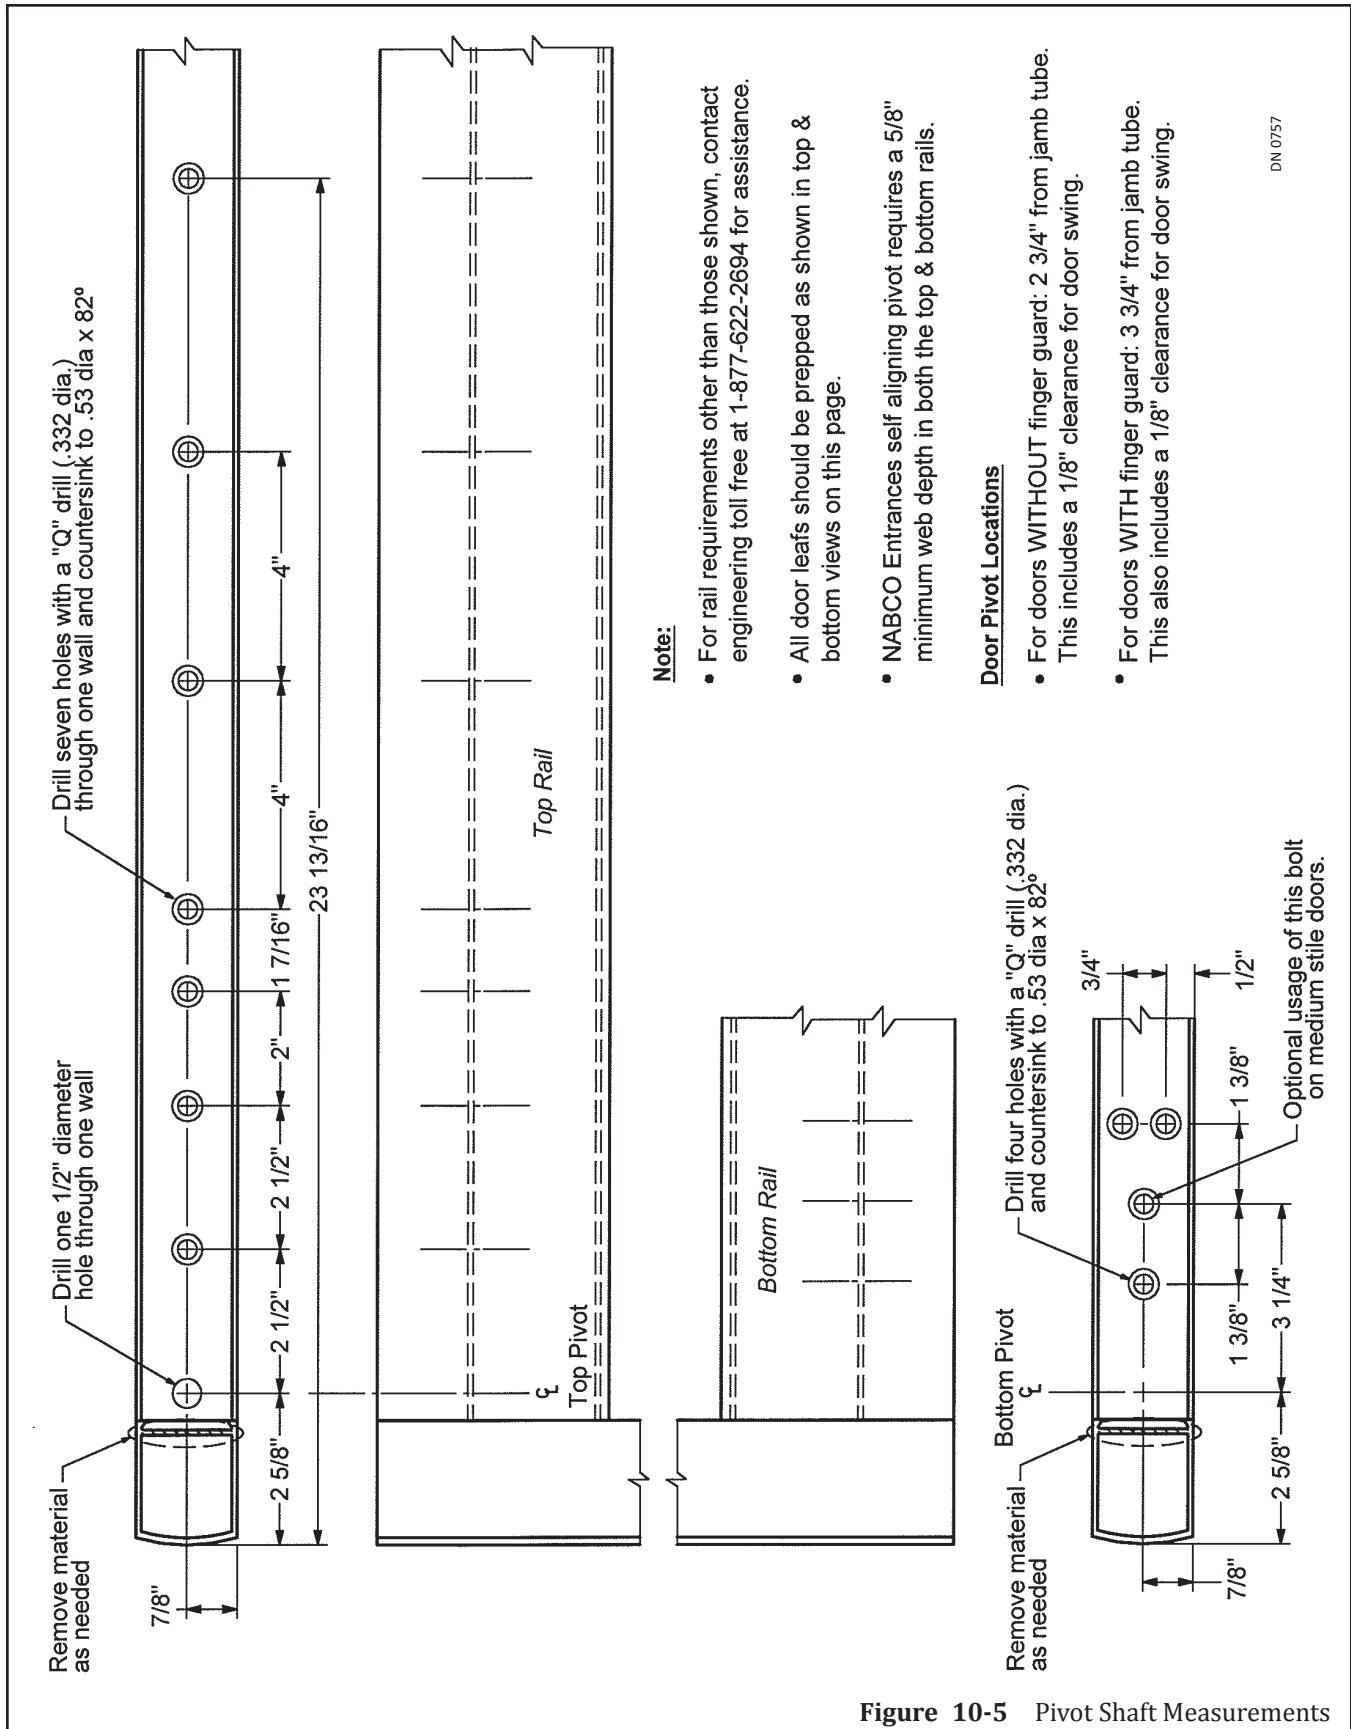
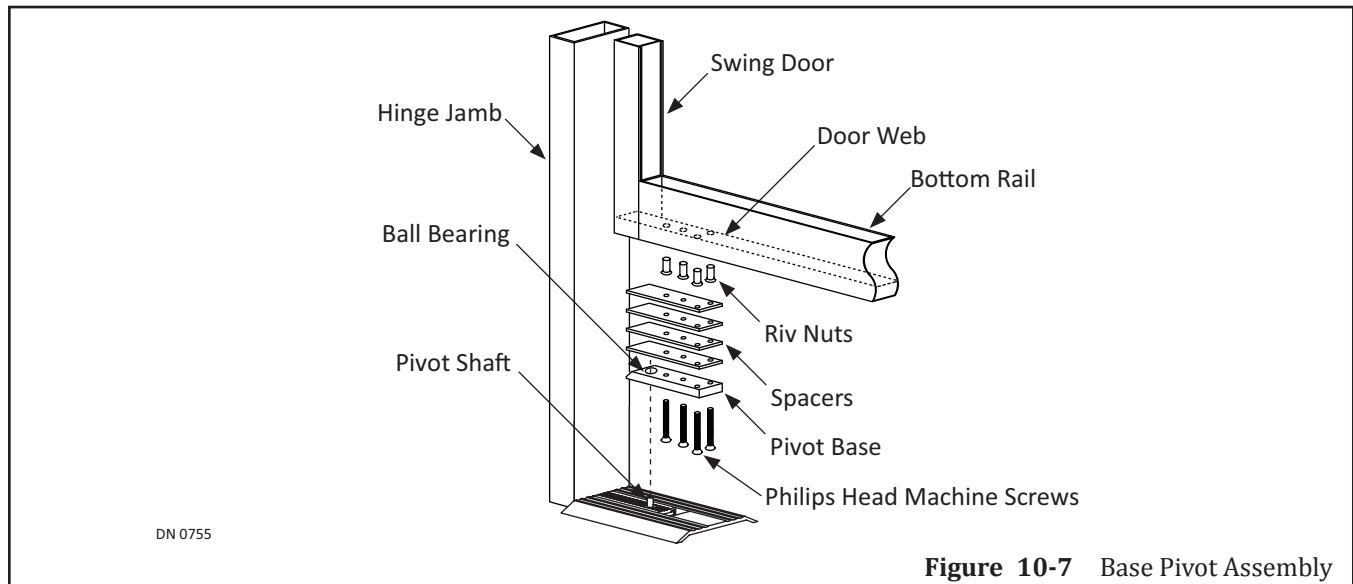
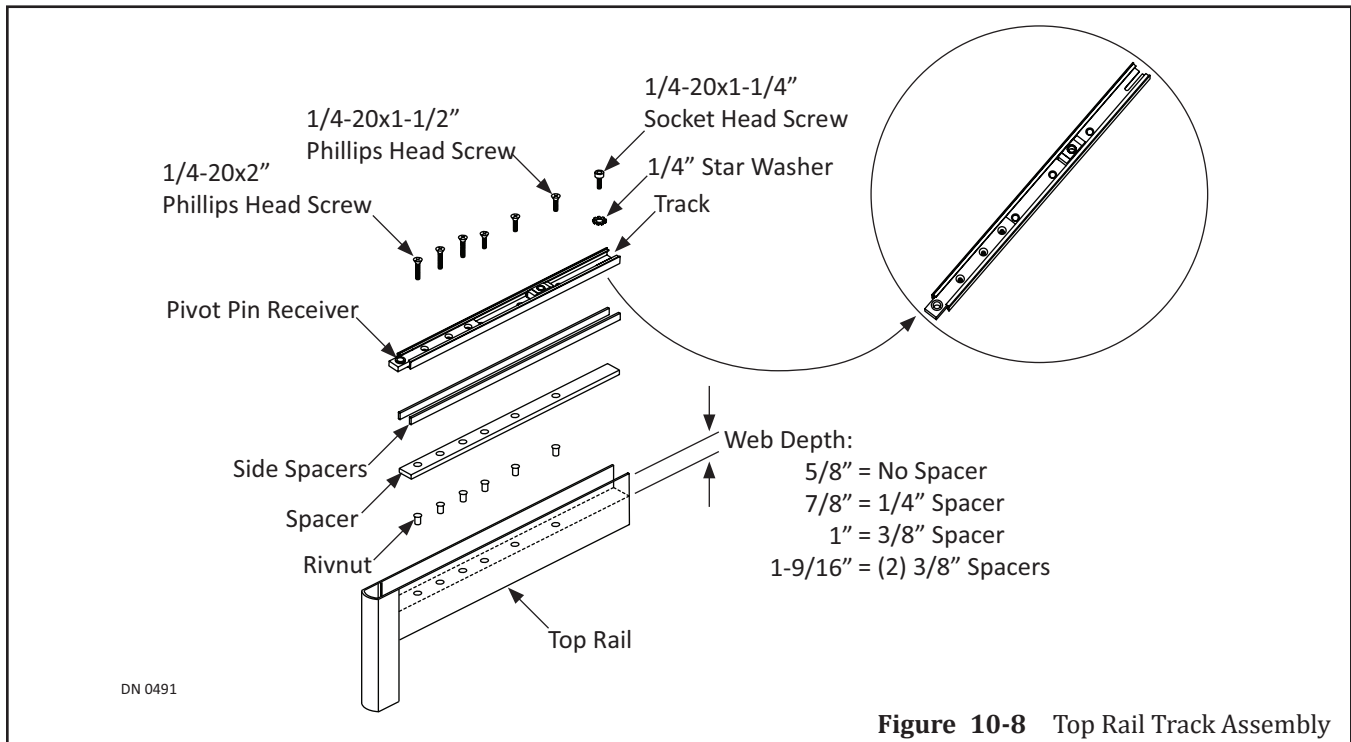

Figure 10-5 Pivot Shaft Measurements
Figure 10-7 Base Pivot Assembly
Figure 10-8 Top Rail Track Assembly
2. Please refer to Figure 10-5 for detailed Base Pivot installation measurements.
7. Obtain (1) Spacer. Center the Spacer inside the Web. Align the second screw hole to the second anchor hole marked onto the Web face.
8. Use the Spacer as a template to mark the remaining (3) anchor holes.
- b. Refer to Figure 10-5 for detailed measurements.
9. Drill (4) .322 anchor holes.
10. Countersink the (4) anchor holes to .53 diameter x 82 degrees.
11. Insert (4) 1/4-20 tapped Rivnuts into the (4) .322 anchor holes.
12. Obtain the Base Pivot assembly. Please see Figure 10-7.
15. Secure the Pivot Base to the Web with (4) 1/4 - 20 x 2 inch Phillips Head Machine Screws.
2. Please refer to Figure 10-5 for detailed Track installation measurements.
4. From the outer edge of the Pivot Stile measure 23-13/16 inches. Mark a vertical line across the horizontal line onto the Web Face. This is the center of (1) .322 anchor hole.
5. Drill (1) .322 anchor hole.
7. Insert (1) 1/4-20 tapped Rivnut into the .322 anchor hole.
8. Obtain the Track Assembly. Please see Figure 10-8.
9. Place (1) Spacer Block inside the Web according to the Web Depth:
- ▶ 1-9/16 inch deep: Insert (2) 3/8 inch Spacer Blocks
10. Place (1) Track on top of the Spacer Block (or the Web if a Spacer Block is not used).
11. Place (2) 5/8 " x 1/16" Side Spacers on either side of the Track.